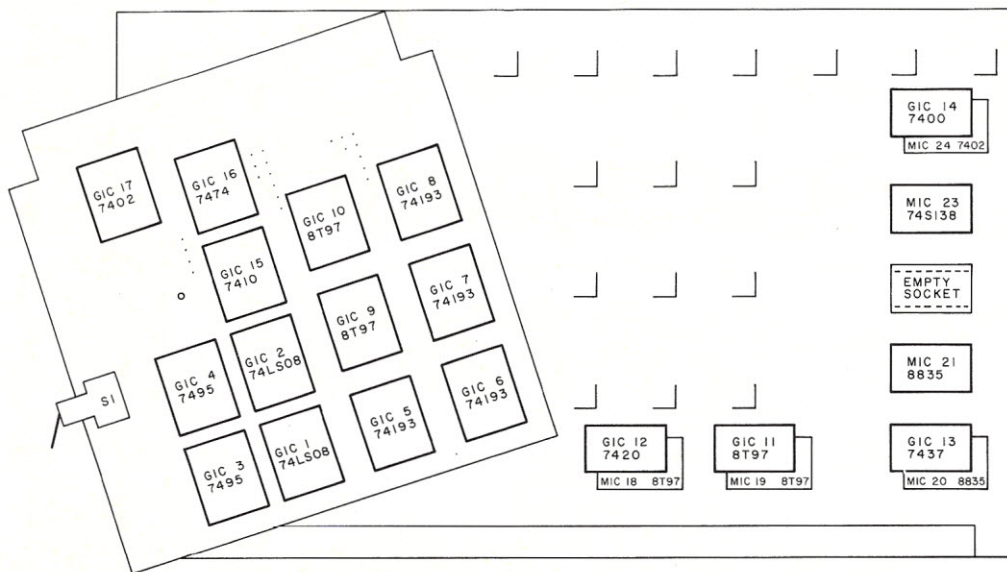

Fig. 5. Component layout for Photo 2.
9. Wire up the auxiliary board. Don't forget to tie the unused inputs on the counters and flip-flops to +5 using 1k pull-up resistors. Wire the connections to the TVT-II to the edge connector on the prototyping board. Wire up a mating female connector with the wires coming from the TVT-II. Connect power and ground to the auxiliary board. (Fig. 5 is a component legend for Photo 2